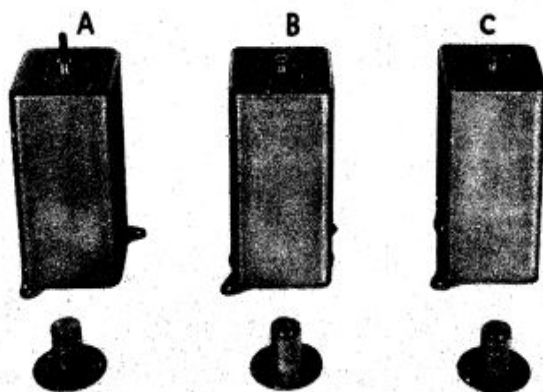

FIG. 23—TYPICAL IF COUPLING UNIT ASSEMBLIES
If the receiver is the 190-550KC or the 520-1500 KC unit, the magnetic coupling between the two tuned circuits in each of the coupling unit assemblies should be reduced by raising the protruding bakelite rod (see Fig. 23) until it snaps into its up or loose-coupled position. The following alignment operations should be performed only with all three of the IF coupling units thus set for loose coupling. After alignment of the entire receiver, the coupling rod of only the first and third IF coupling units should be snapped back into its down or over-coupled position. The 1.5-3 MC and the 3-6 MC receivers have three IF coupling units with two tuned circuits per unit, but the coupling between circuits is not adjustable. The 6-9.1 MC receiver has three IF coupling units, but with only one tuned circuit per unit.
(4) There are two holes "1" and "2", in the top of each IF coupling unit shield of the four lowest frequency receivers and one hole "1" in the highest frequency receiver (See Fig. 23). A variable capacitor under "1" tunes the input (plate) tuned circuit and the capacitor under "2" (where present) tunes the output (grid, or diode input tuned circuit). Using a small screw driver, tune the capacitor under "1" and then under "2" in the third IF coupling unit Z-3 for maximum output. Repeat this operation to be assured that it is maximum. In the highest frequency receiver, there is but one circuit to be tuned in each IF coupling unit. The capacitor is reached through the single hole "1".
(5) Similarly, tune the capacitor (or capacitors) in the second IF coupling unit Z-2.
(6) Similarly, tune the capacitor (or capacitors) in the first IF coupling unit Z-1.
(7) Switch to "CW" and tune the CW oscillator trimmer capacitor C-28 for zero beat. Capacitor C-28 may be tuned with a small screw driver